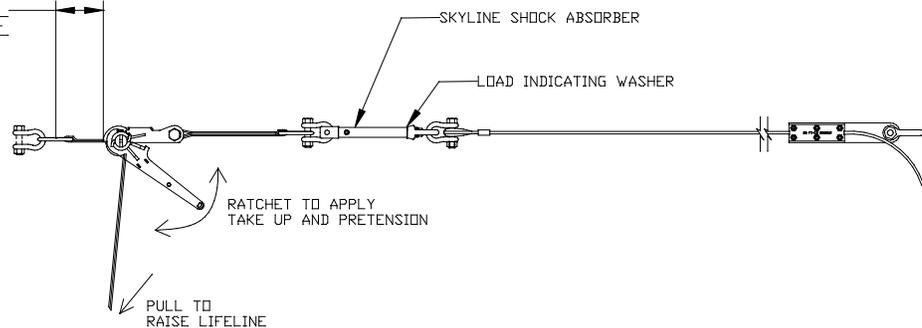

Fig. 15 Shock Absorber Load Indicating Washer
29. Tighten the ratchet load binder until the line tension just releases the load-indicating washer of the Shock Absorber to spin free. This washer is located just under the eye of the Shock Absorber (see Figure 15). A freely spinning washer indicates that the cable has been pre-tensioned to 1000 lbf.